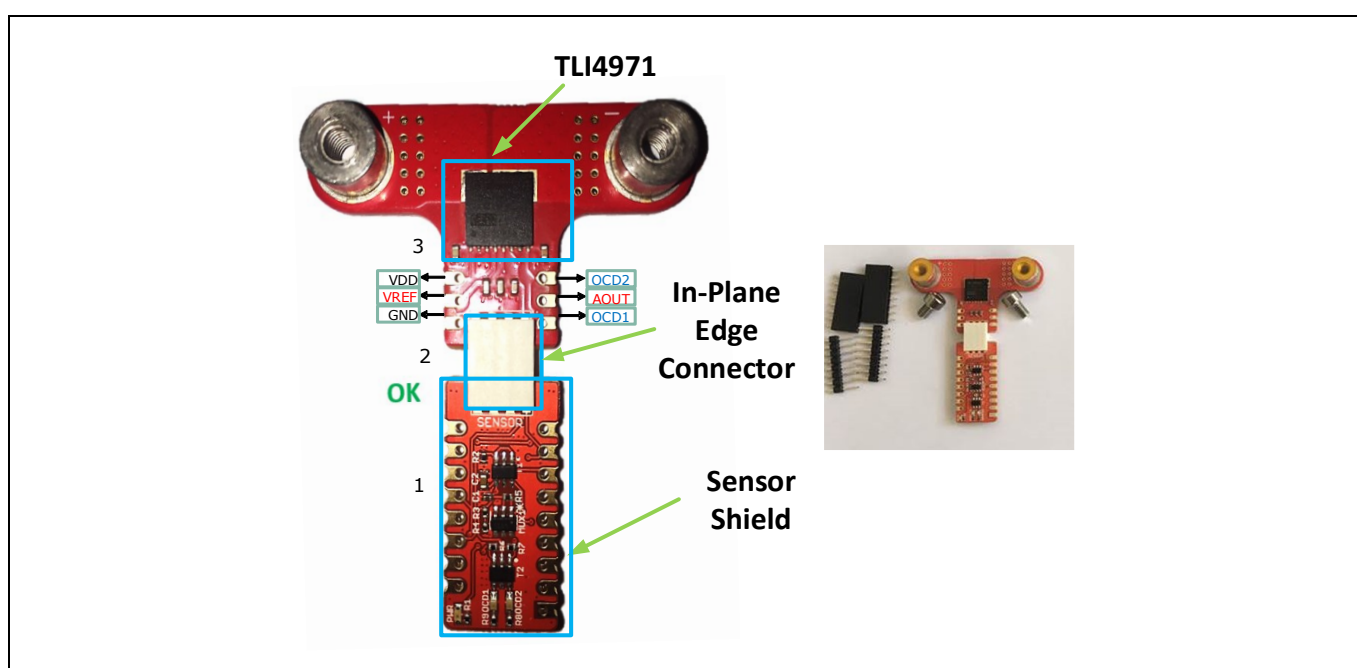

Figure 3 S2Go kit component list
- Sensor board (equipped with M4 screw connectors for high current capabilities), built in thick copper technology (140um copper / dual layer) shown in Figure 3.
- Sensor shield, in addition to the MCU board, the sensor board can be connected to the shield. This PCB only implements sensor application circuit & peripherals + connection pinout to XMC2go platform shown in Figure 3.
- Zip lock bag with 2xM4 screws, 1 PCB edge connector (for connecting the sensor board to MCU board/shield), pin headers to access data lines (male & female) shown in Figure 3.